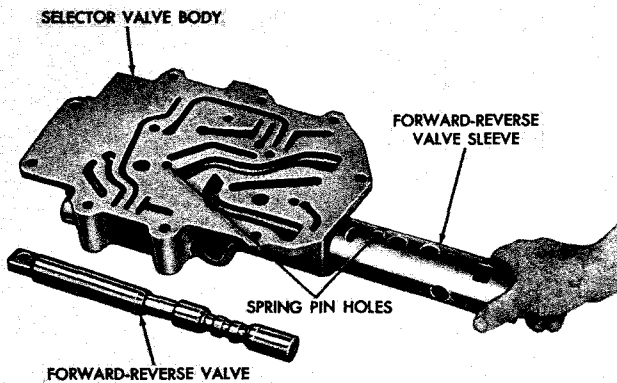

Fig. VI-2. Installing forward, reverse valve sleeve—early model
(4) Install gasket 19 onto retainer plug 15. Install retainer plug 15 into the valve body.
(5) If bushings 26 or 33 were removed from valves 27 or 32, install new bushings. Press the bushings into the valve stems until they are flush with, or below, the surface of the stems.
(6) Install plug 23 into valve body 34.
(7) Install spring 9 and detent ball 10 (upper group) into valve body 34.
(8) Depress the ball and spring, and install the range selector valve 32, notched-end first, into the rear of the valve body bore. Push the valve into the bore until it catches detent ball 10. Remove the tool with which the detent ball was depressed, and push the valve to a detent position.
(9) Install remaining detent ball 10, spring 9, pin 8, gasket 7 and plug 6 (upper group).
(10) Install the forward-reverse valve sleeve 24 into the valve body as shown in fig. VI-2. Note the relative positions of the valve body and sleeve, and the openings in the sleeve. The spring pin holes in the body and sleeve must be aligned.
(11) Install spring pin 11. Drive it into the valve body until it seats in the valve sleeve.
(12) Install spring 9 and detent ball 10 (lower group) into the valve body.
(13) Depress the ball and spring, and install the forward-reverse control valve assembly 25, notched end first, into the rear of the valve body. Push the valve into the bore until it catches detent ball 10. Remove the tool with which the detent ball was depressed, and push the valve to a detent position.
(14) Install remaining detent ball 10, spring 9, pin 8, gasket 7, and plug 6 (lower group).
(15) Install seal 12, spring-loaded side inward, onto the range selector valve stem.